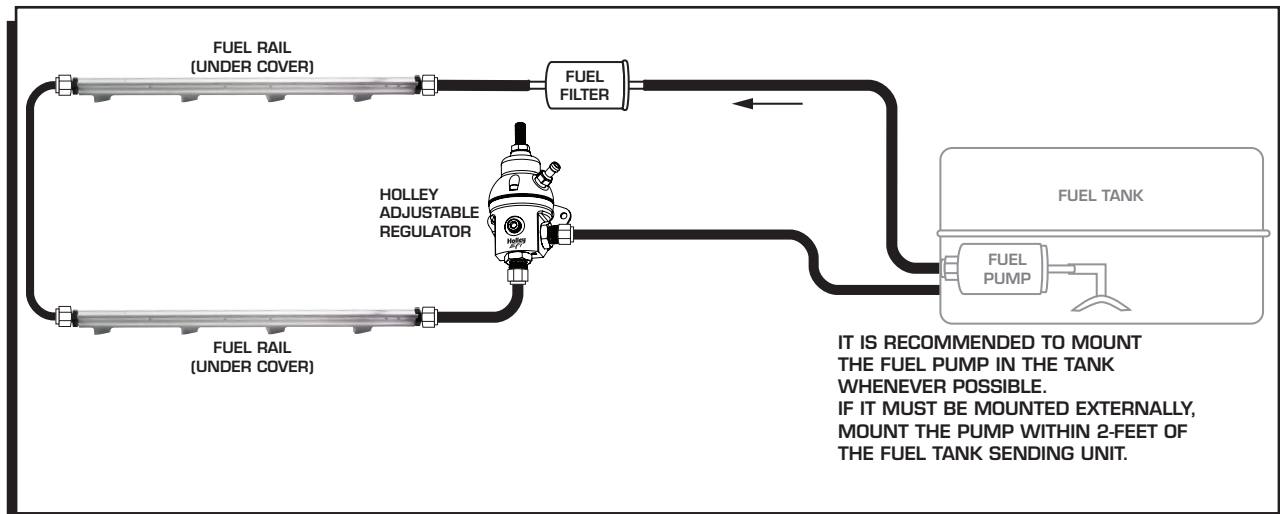
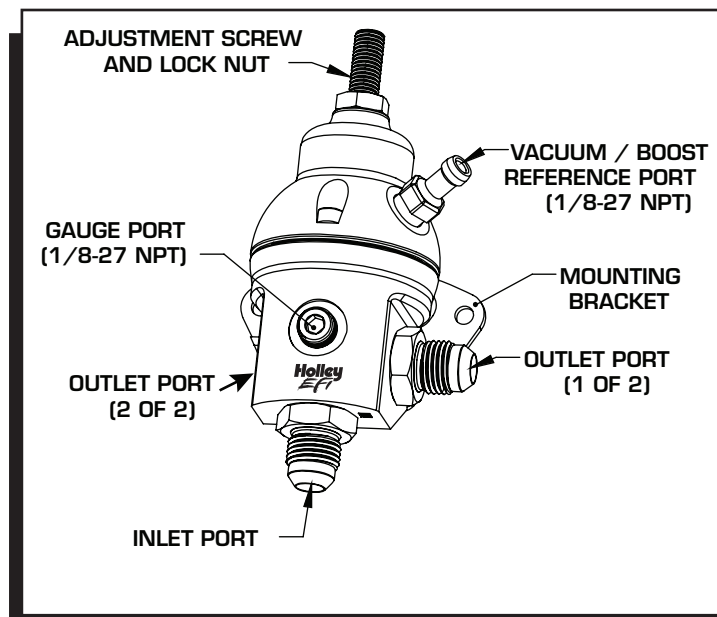

Figure 3 EFI Return Fuel System.
Figure 5 Regulator Feature Identification Guide
When installing the kit in conjunction with an EFI return system, refer to Figure 3. There are two possible connection points (one at the rear of each fuel rail assembly). One rail will be connected to the fuel supply in an operational system. DO NOT “tee” into the supply line and leave the opposing fuel rail plugged or capped (Figure 5). Fuel from the opposing rail should be routed to the regulator inlet port (using the supplied hose and fittings). The hose length between the rail and regulator is not critical, but should be kept to a minimum.
The regulator inlet port is located on the bottom surface, and clearly marked with an identifier machined in the housing (see Figure 5). Two (2) outlet ports are available, but typically only one (1) will be used. Install an 8AN port plug in the unused outlet port using a 3/8-inch hex key (Allen wrench). The -8AN straight port fittings should be snugged with a wrench or deep socket.
Install the supplied 1/8-27 NPT brass hose barb fitting in the upper regulator housing (see Figure 5) using a 7/16-inch wrench or deep socket. Thread sealer is not required on this fitting, but can be used if desired. Connect an intake manifold vacuum / boost source to this fitting, or leave it open to the atmosphere if manifold pressure compensation is not required. **DO NOT plug this opening.** Ensure that contaminants (such as water and road spray) cannot enter the open fitting. In the event that vacuum / boost reference is